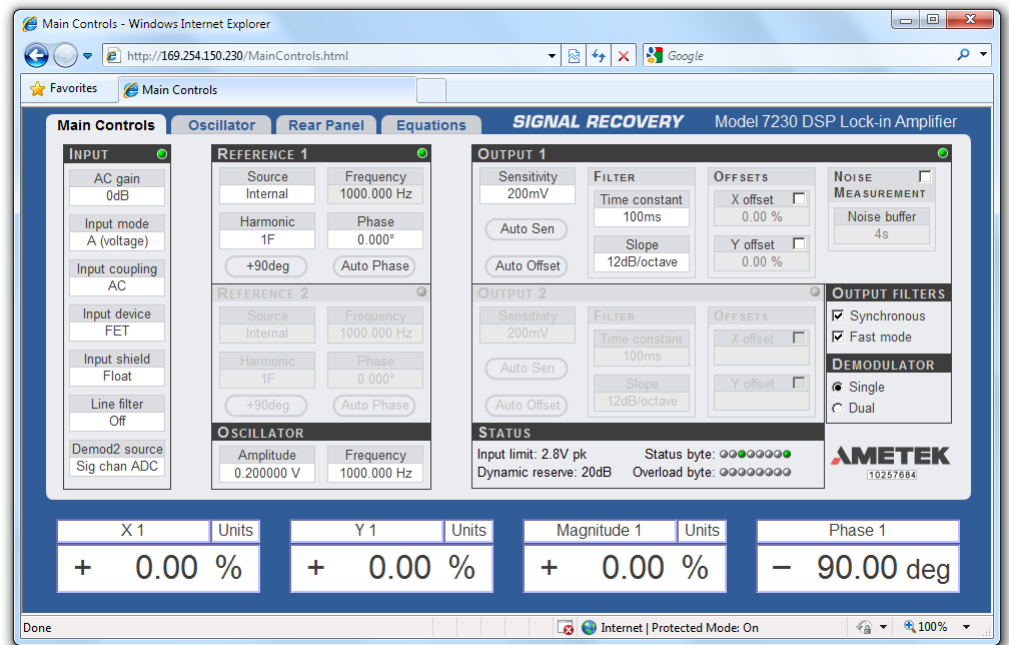

Figure 5-8, Model 7230 Main Controls Panel
- 8) Type 169.254.150.230 into the address bar and press <return>. The 7230's Main Controls panel should be displayed, as shown below in figure 5-8.